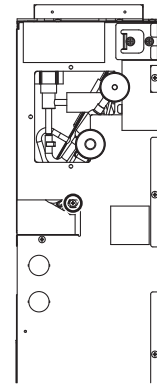

Fig.23
- (1) Remove the fixing screws on the heat exchanger (P) to remove it (Fig.23, 24).